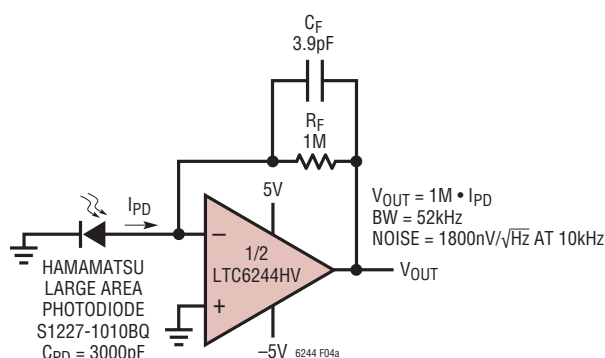

Figure 4a. Large Area Photodiode Transimpedance Amplifier
A simple large area photodiode amplifier is shown in Figure 4a. The capacitance of the photodiode is 3650pF (nominally 3000pF), and this has a significant effect on the noise performance of the circuit. For example, the photodiode capacitance at 10kHz equates to an impedance of 4.36k $\Omega$ , so the op amp circuit with 1M $\Omega$  feedback has a noise gain of  $NG = 1 + 1M/4.36k = 230$  at that frequency. Therefore, the LTC6244 input voltage noise gets to the output as  $NG \cdot 7.8nV/\sqrt{Hz} = 1800nV/\sqrt{Hz}$ , and this can clearly be seen in the circuit's output noise spectrum in Figure 4b. Note that we have not yet accounted for the op amp current noise, or for the 130nV/ $\sqrt{Hz}$  of the gain resistor, but these are obviously trivial compared to the op
Figure 4b. Output Noise Spectral Density of the Circuit of Figure 4a. At 10kHz, the 1800nV/ $\sqrt{Hz}$  Output Noise is Due Almost Entirely to the 7.8nV Voltage Noise of the LTC6244 and the High Noise Gain of the 1M Feedback Resistor Looking Into the High Photodiode Capacitance
The solution is as shown in the circuit of Figure 6a, which uses a capacitor-resistor pair to enable the AC benefits of bootstrapping while allowing a different reverse DC voltage on the photodiode. The JFET is still running at the same current, but an arbitrary reverse bias may be applied to the photodiode. The output noise spectrum of the circuit with 0V of photodiode reverse bias is shown in Figure 6b. Photodiode capacitance is again 3650pF, as in the original circuit of Figure 4a. This noise plot with 0V bias shows that bootstrapping alone was responsible for a factor of 6.2 noise reduction, from 1800nV/√Hz to 291nV/√Hz at 10kHz, independent of photodiode capacitance. However, photodiode capacitance can now be reduced arbitrarily
**Figure 6b: Output Spectrum of Circuit of Figure 6a, with Photodiode Bias at 0V. Photodiode Capacitance is Back Up, as in the Original Circuit of Figure 4a. However, it can be Reduced Arbitrarily by Providing Reverse Bias. This Plot Shows that Bootstrapping Alone Reduced the 10kHz Noise Density by a Factor of 6.2, from 1800nV/√Hz to 291nV/√Hz**
The circuit on the last page of this data sheet shows further reduction in noise by paralleling four JFETs to attain 152nV/√Hz at 10kHz, a noise of 12 times less than the basic photodiode circuit of Figure 4a.